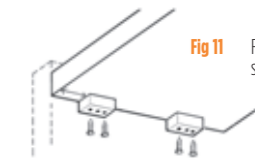

Fig 11 Fitting the block supports to the shelves
- Place the edge of one half of a block fitting against your mark and screw into position (see Fig 11) repeat for both shelves on each side piece.